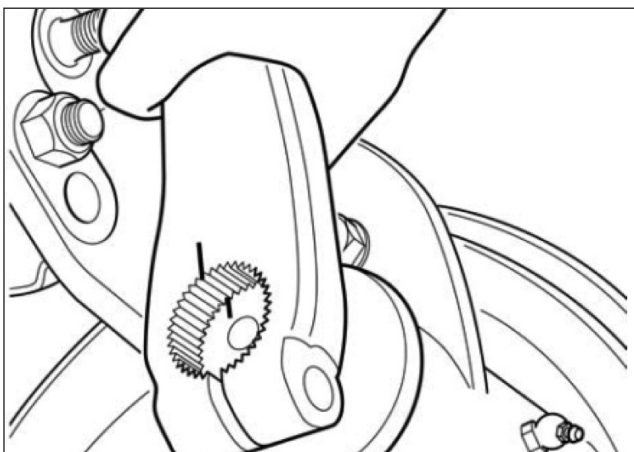

Fig. 3.10
10. Insert the lever in correspondence of the previously marked done - Fig. 3.10